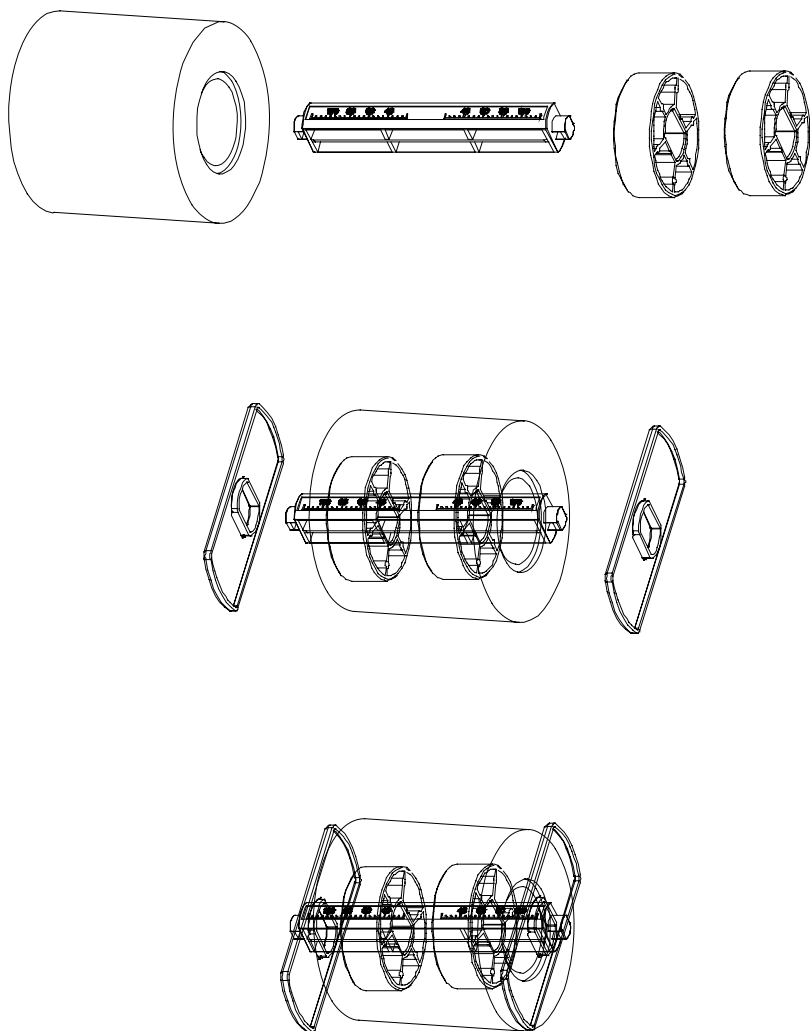

Figure 6-2
2. Load a roll of media (labels facing up) on the Media Spindle, then slide the two Media Roll Guides with their smooth sides toward the media onto the Media Spindle from each end until snug against the media. If you are placing a roll of media with a 3" ID core, please slide the two Core Adapters onto the Media Spindle first (Figure 6-2).